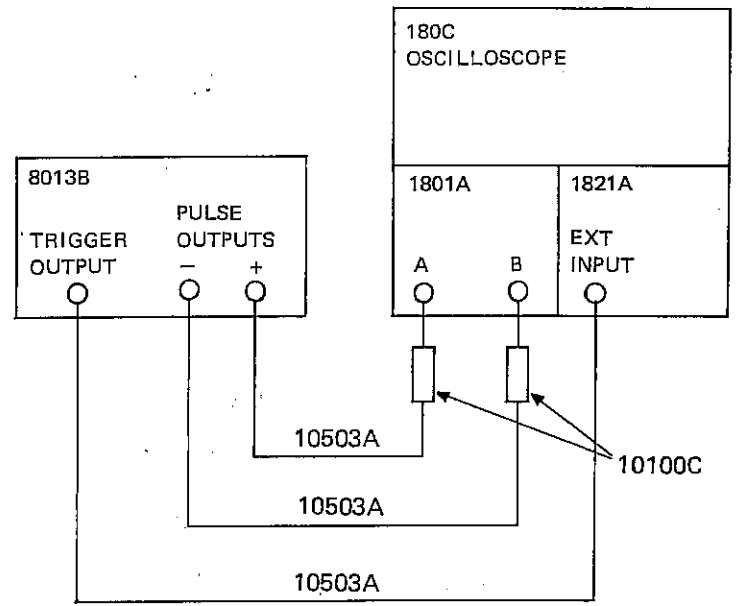

Figure 3-4. Initial control settings and test equipment
3-14 In this mode the 8013B requires no external signal to produce an output signal. Rate, delay, width, amplitudes etc. are all adjustable from the front panel controls. The initial control settings (also shown in Figure 3-1) are given to assist someone unfamiliar with the operation of the 8013B. The positive and negative pulse outputs (17) and (18) and the TRIGGER OUTPUT (21) should be connected to an oscilloscope using a 50 ohm system (as shown in Figure 3-4). The oscilloscope (an HP 180C mainframe with 1801A and 1821A plug-ins) should be set with the sweep time at $20 \mu\text{s}/\text{div}$ and the sensitivity at $2\text{V}/\text{div}$.
- PULSE PERIOD ② .1m-10m
- VERNIER ③ CCW
- PULSE DOUBLE/NORM ④ NORM
- PULSE DELAY ⑤ 1μ-.1m
- VERNIER ⑥ CCW
- PULSE WIDTH ⑦ 1μ-.1m
- VERNIER ⑧ Center
- AMPLITUDE ⑨ 2.0-5.0
- VERNIER ⑩ CW
- OFFSET VERNIER ⑪ Center